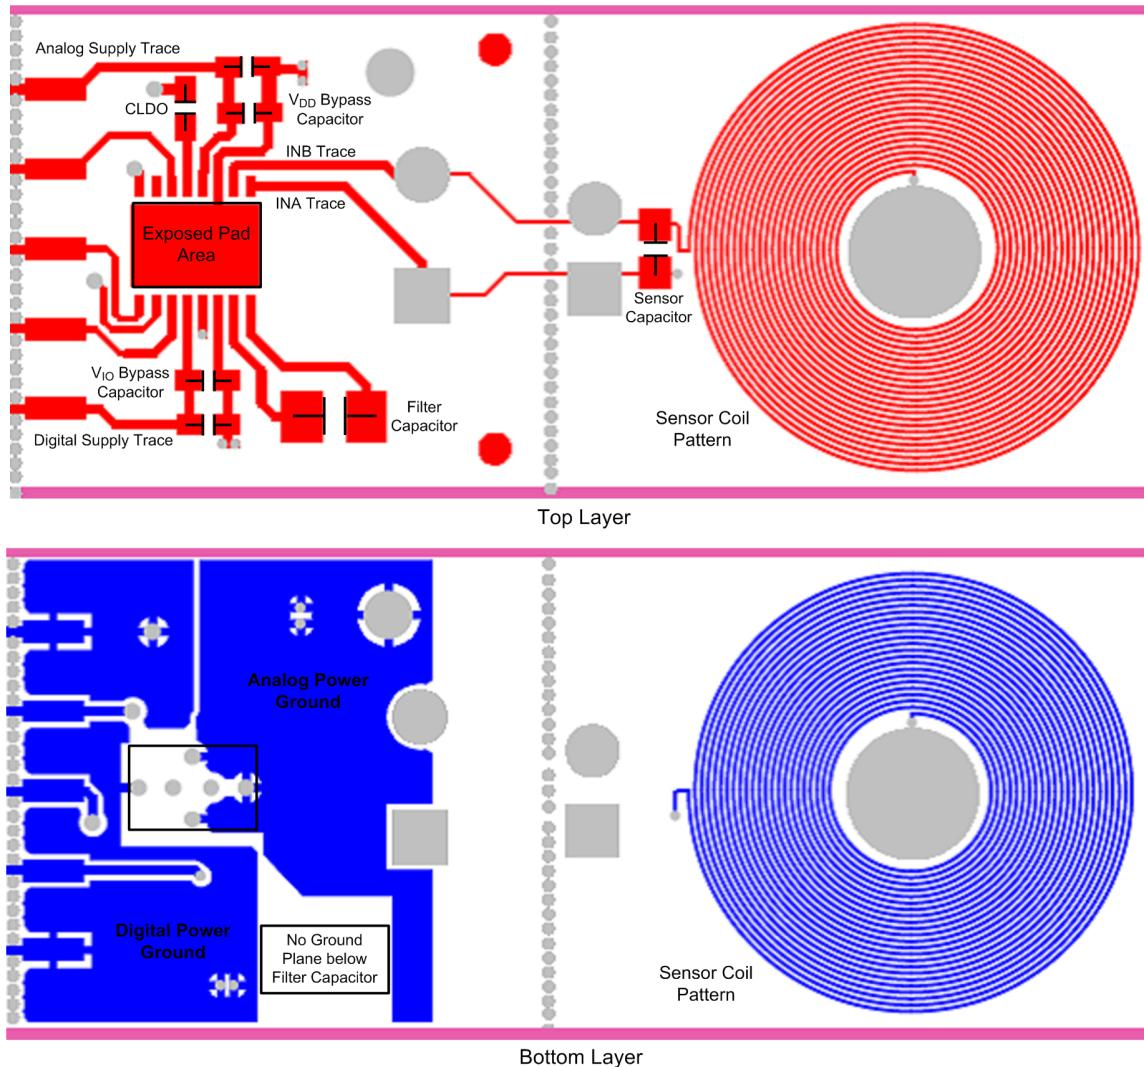

Figure 23. LDC10xx Board Layout
- The optimum placement is closest to the VDD/VIO and GND/DGND terminals of the device. Care should be taken to minimize the loop area formed by the bypass capacitor connection, the VDD/VIO terminal, and the GND/DGND terminal of the IC. See Figure 23 for a PCB layout example.
- Use of two separate ground plane for GND and DGND is recommended with a star connection. See Figure 23 for a PCB layout example.